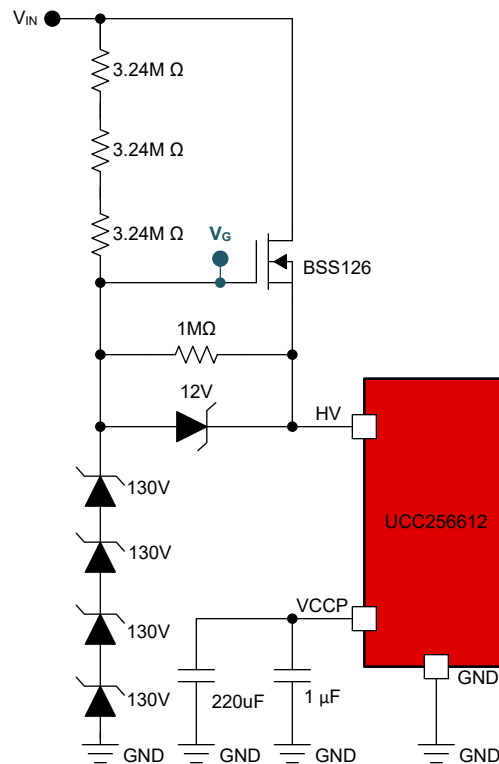

Figure 2-2. Extend Start-Up Capability to 800V, V_G is the Measurement Point for the Start-Up Circuit
As shown in Figure 2-2, during the power-on stage, when VCCP is lower than VCCstartSelf, the internal current source of HV pin pulls the source of BSS126 lower than its gate to turn BSS126 on. The internal high-voltage (HV) current source regulates the charging current of the VCCP capacitor at a maximum of 10mA. When the VCCP triggers the VCCstartSelf, the internal HV current source turns off and leaves the HV pin floating, and the source of BSS126 is higher than its gate to turn BSS126 off until the VCCP is discharged to VCCstopSwitching (9.5V) to turn the HV pin on again.